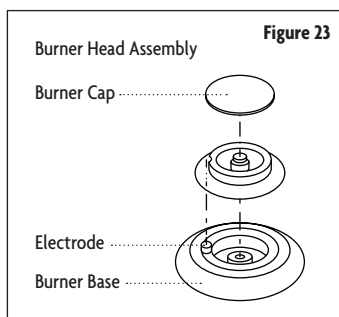

Figure 23
- Place a burner cap on each burner head, matching the cap size to the head size. (Refer to Figure 23.)